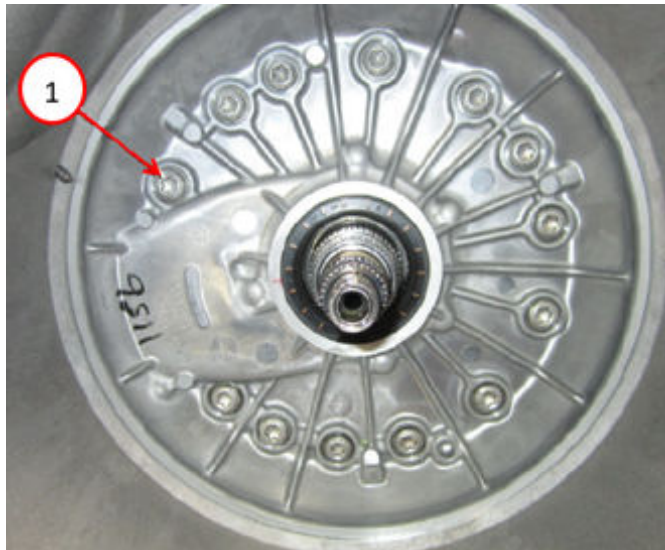

Fig. 15
22. Carefully pry the oil pump housing away from the case using a small flat blade screwdriver or equivalent through the case opening Fig. 15.